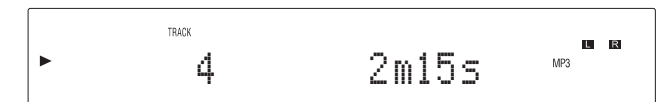

Figure 40
1. Press the PLAY/PAUSE ►/ || Push-button to start Playback. Refer to figure 40.